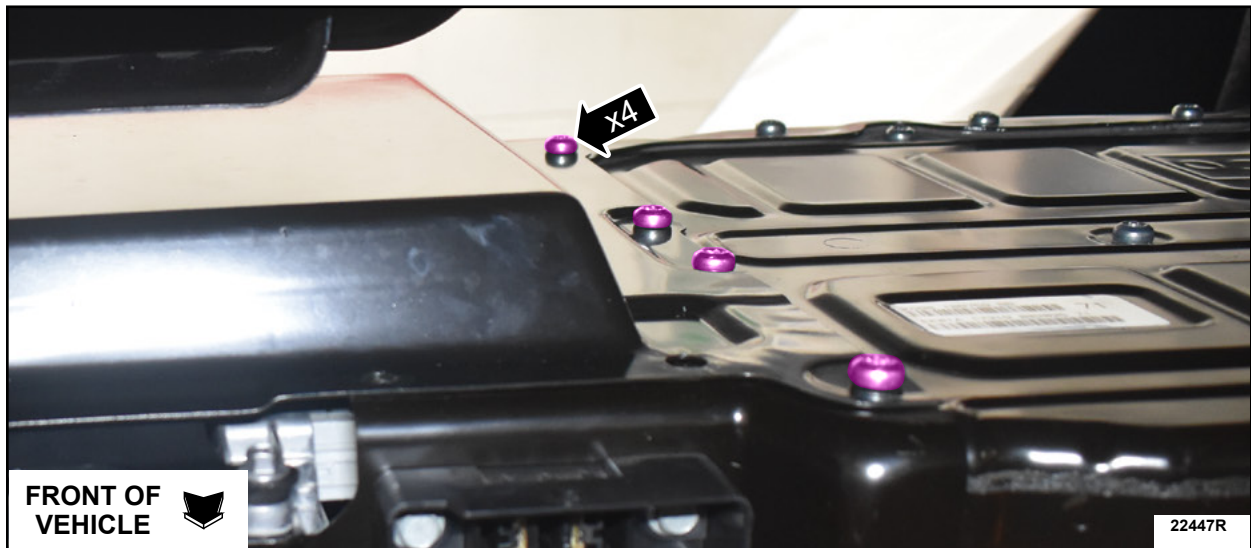

FIGURE 18
20. Tighten the four torx bolts. See Figure 18.